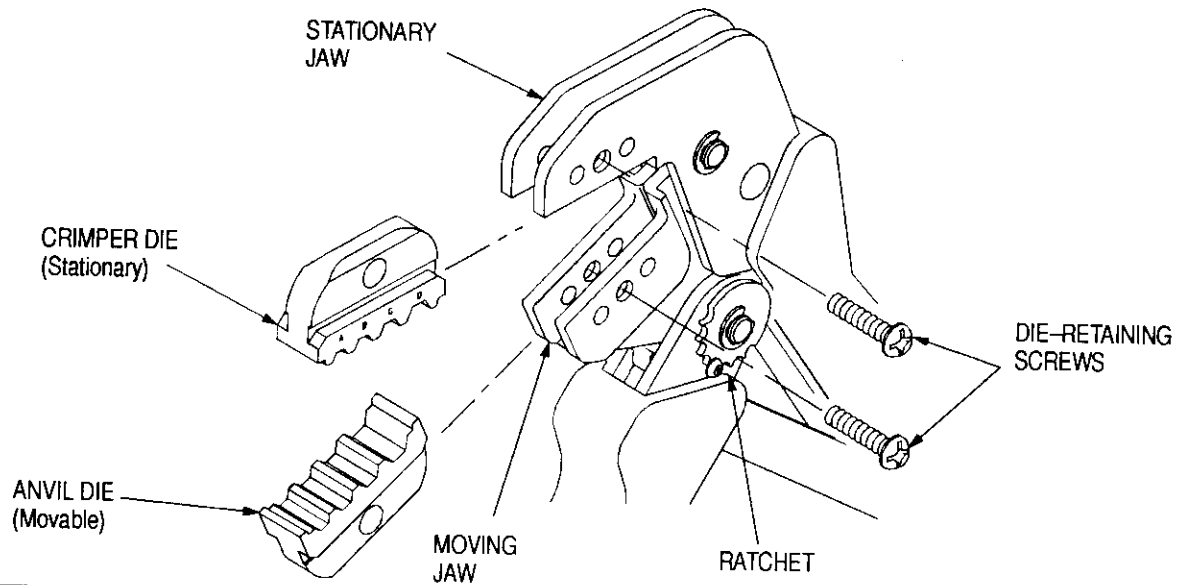

Figure 2
the fiber-optic cable. Each die is held in the tool jaws with a single die-retaining screw. See Figure 2.
3. DIE INSTALLATION (Figure 2)